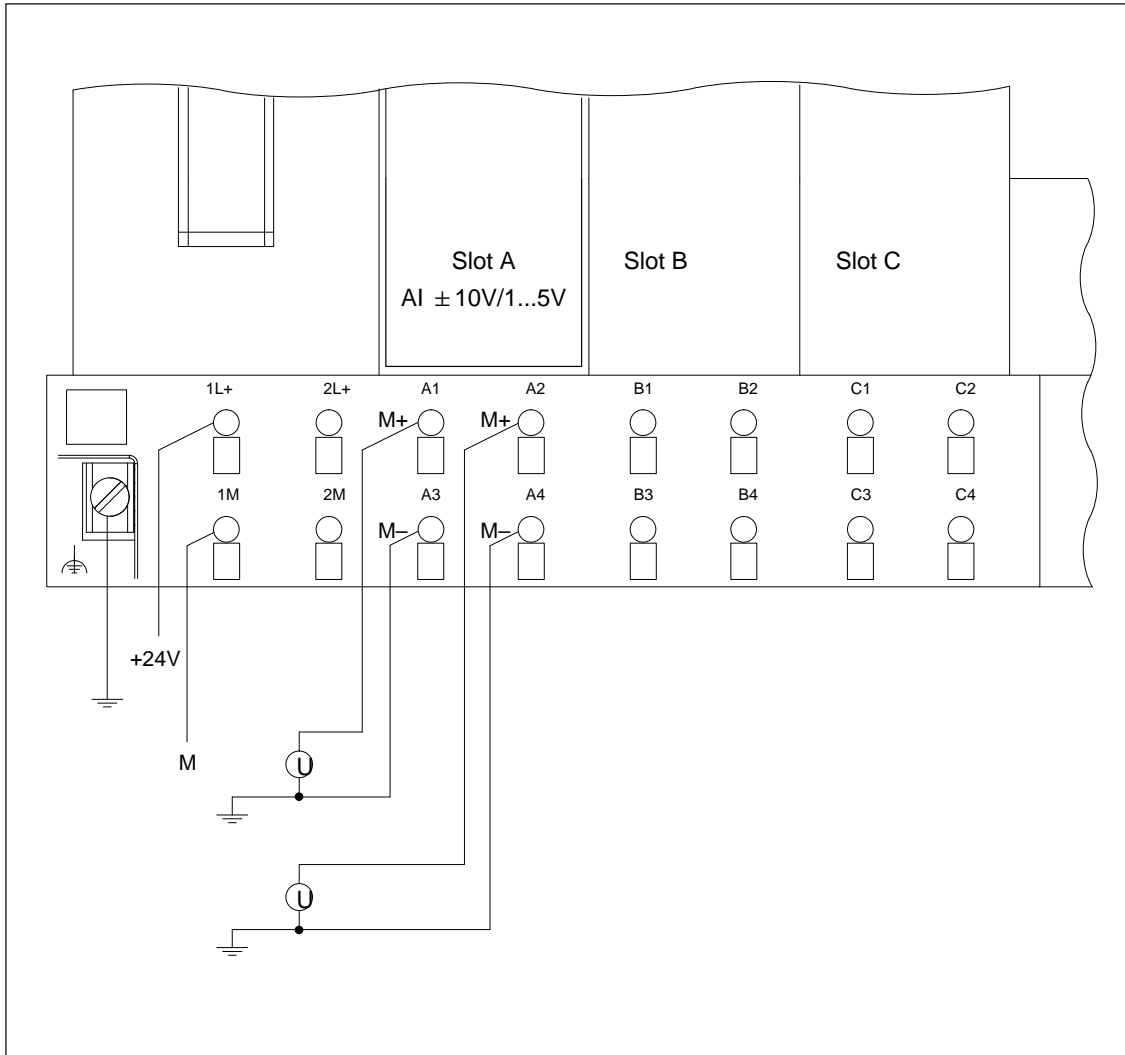

Figure 11-4 Connecting Voltage Sensors (Example TB 16SC)
**Voltage Sensors** Figure 11-4 shows how to connect voltage sensors to an analog input module.